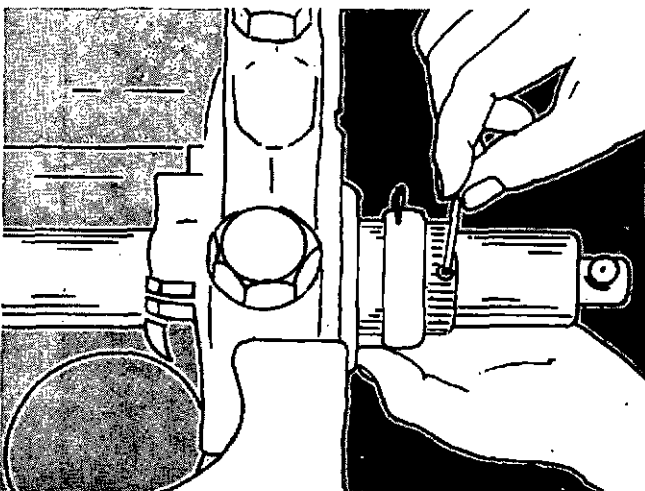

Fig. 1-49. Tighten The Setscrew For The Depth Set Collar
8. Set the depth collar so that the cutting tool will make the lightest contact possible with the surface to be cut. Tighten the setscrews for the collar, Fig. 1-49.